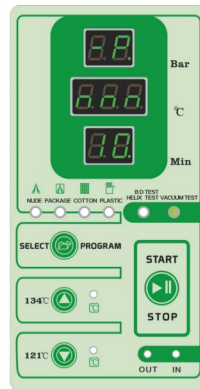

Fig.7.4-13
- (4)this pressure is maintained for 10 minutes and then measured P3.(Fig.7.4-13)